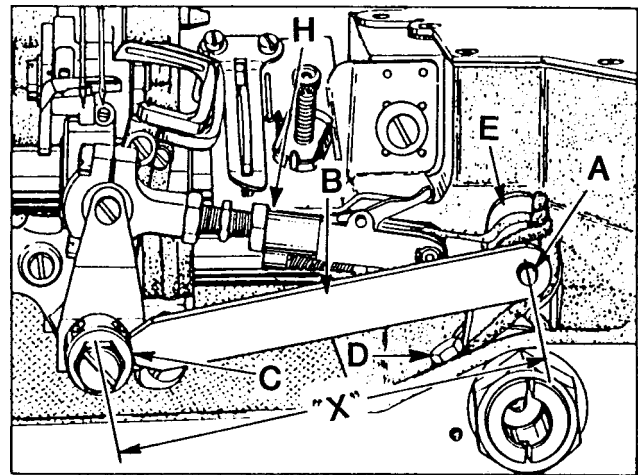
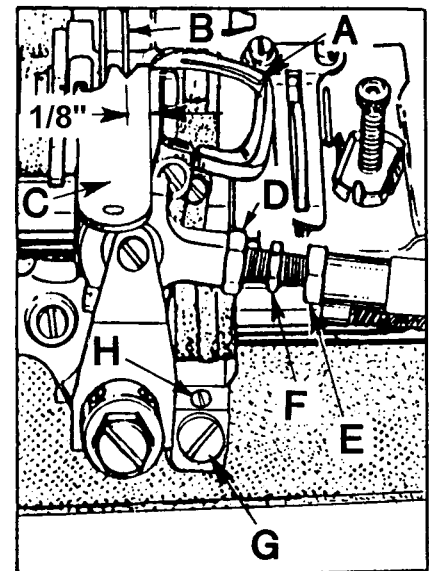

Fig. 6
Fig. 7
Turn handwheel in operating direction until looper is at the extreme right end of its travel. Check location of the center-line of right looper connecting rod bearing using gauge TT35. Place hole in gauge (B, Fig. 6) over threaded stud (A). The left end of gauge should locate against the RIGHT side of looper rocker cone (C). If adjustment is necessary, loosen clamp screw (D), reposition looper driver lever (E) as required and retighten screw (D). If a gauge is not available, the setting can be checked with a scale. "X" dimension is from centerline of stud (A) to centerline of cone (C) which should be  $4 \frac{1}{16}$  inch (103.2mm).
**CAUTION:** After adjusting the looper gauge and looper avoid, there should be shake at both end points of the looper connecting rod while rotating handwheel a full 360° (H, Fig. 6). If bind occurs loosen nuts (D and E, Fig. 7) and reposition strap (H). Retighten nuts.
Insert a new needle, type and size as specified. Using the 1/8 inch (3.2mm) looper gauge, set the looper (A, Fig. 7) so the distance from the center of the needle (B) to the point of the looper is 1/8 inch (3.2mm), when the looper is at its farthest position to the right.
If adjustment is necessary, loosen lock screw (G, Fig. 7) and turn stop screw (H) as required. Turning stop screw clockwise sets the looper to the rear and turning it counterclockwise acts the reverse. Holding looper to the front while making this adjustment may prove helpful. Tighten lock screw when setting is obtained and recheck the adjustment.